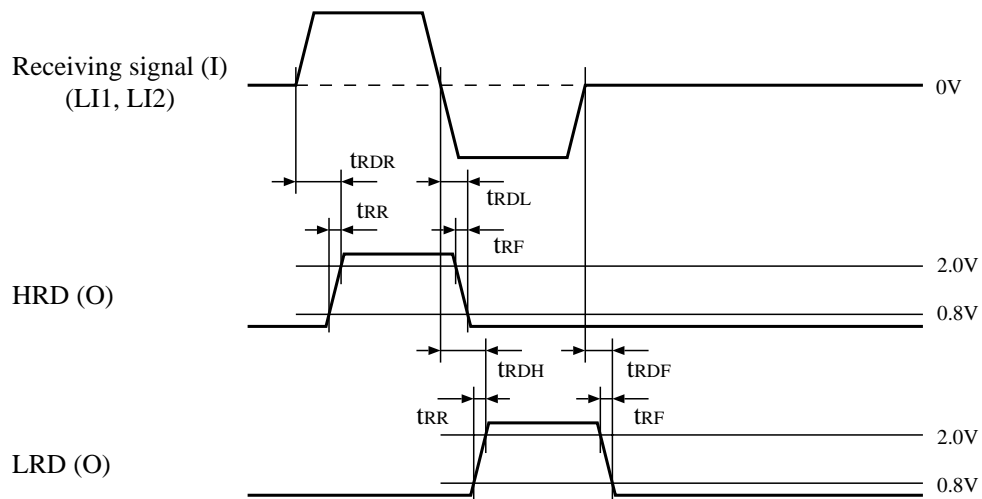

Figure 5.1: Receiver Timing
**Note 3:** Figure 5.1 shows the receiver timing under the condition that  $\overline{\text{ODSEL}} = \text{"H"}$ .